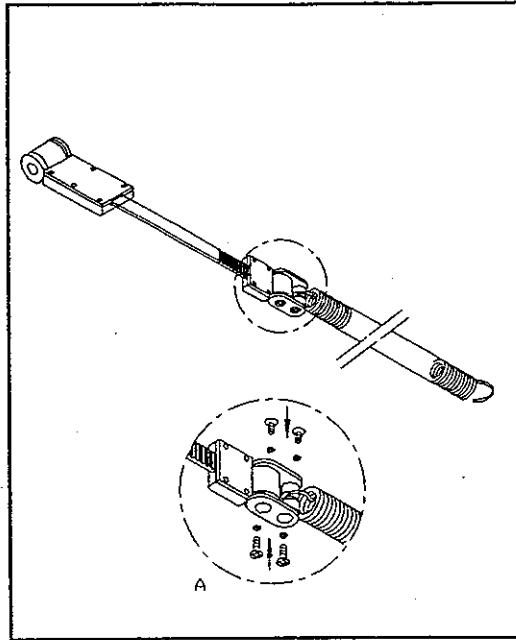

Fig. 14
2. Connect the belt to the spring securely with two screws and washers on both sides (see Fig. 14).